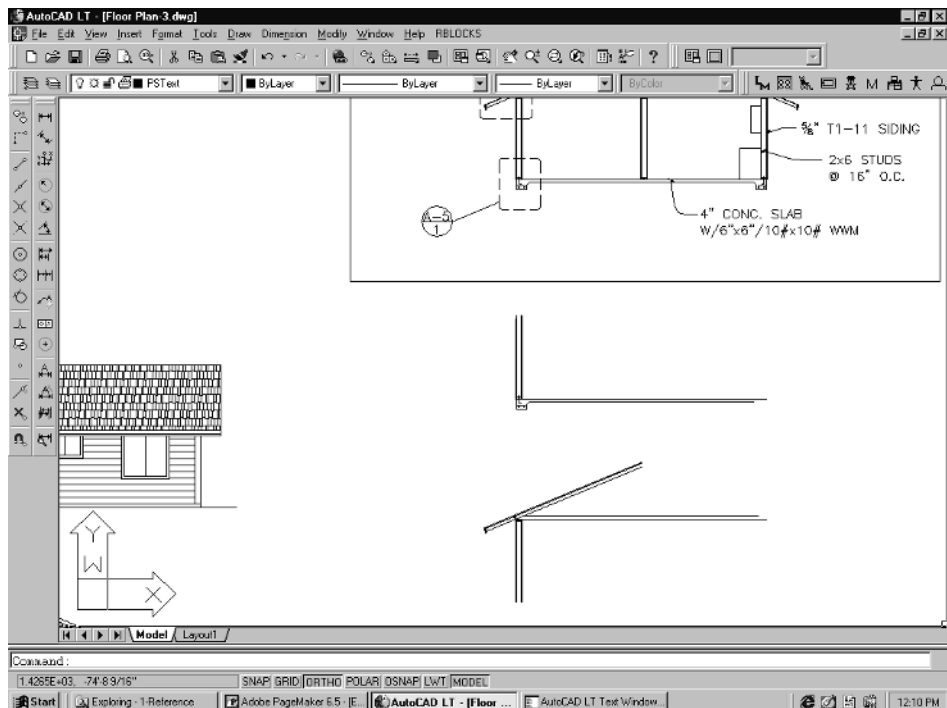

Figure 5-4
3. Do the same thing for the truss/wall area. Copy it to an empty area of your drawing, as shown in Figure 5-4.